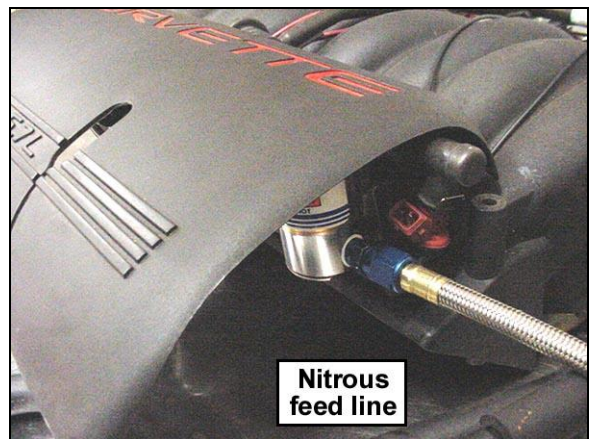

Figure 13
9. Plumb your nitrous supply line to the rear of the nitrous solenoid (**Figure 13**).